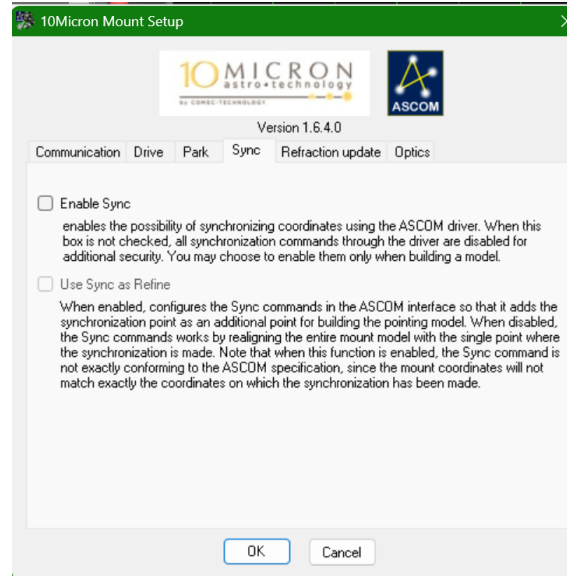

Figure 2.3: Sync settings of the 10Micron driver.
- Must select Enable sync fig. 2.3 when using model creator! That is the whole point of model creator!!